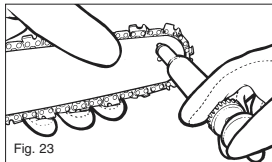

Fig. 23
3. Using the Lube Gun (optional), insert needle nose into the lubrication hole and inject grease until it appears at outside edge of sprocket tip (Fig. 23).